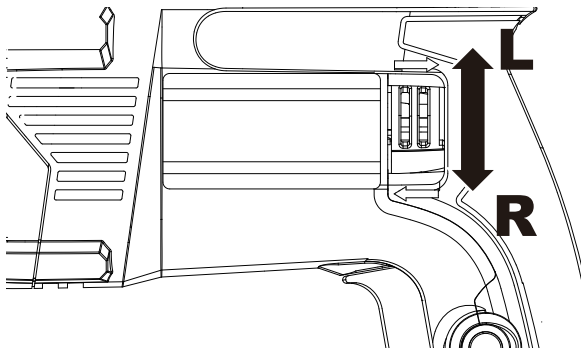

Figure 6
3. CHANGING ROTATIONAL DIRECTION (SEE FIG. 6)